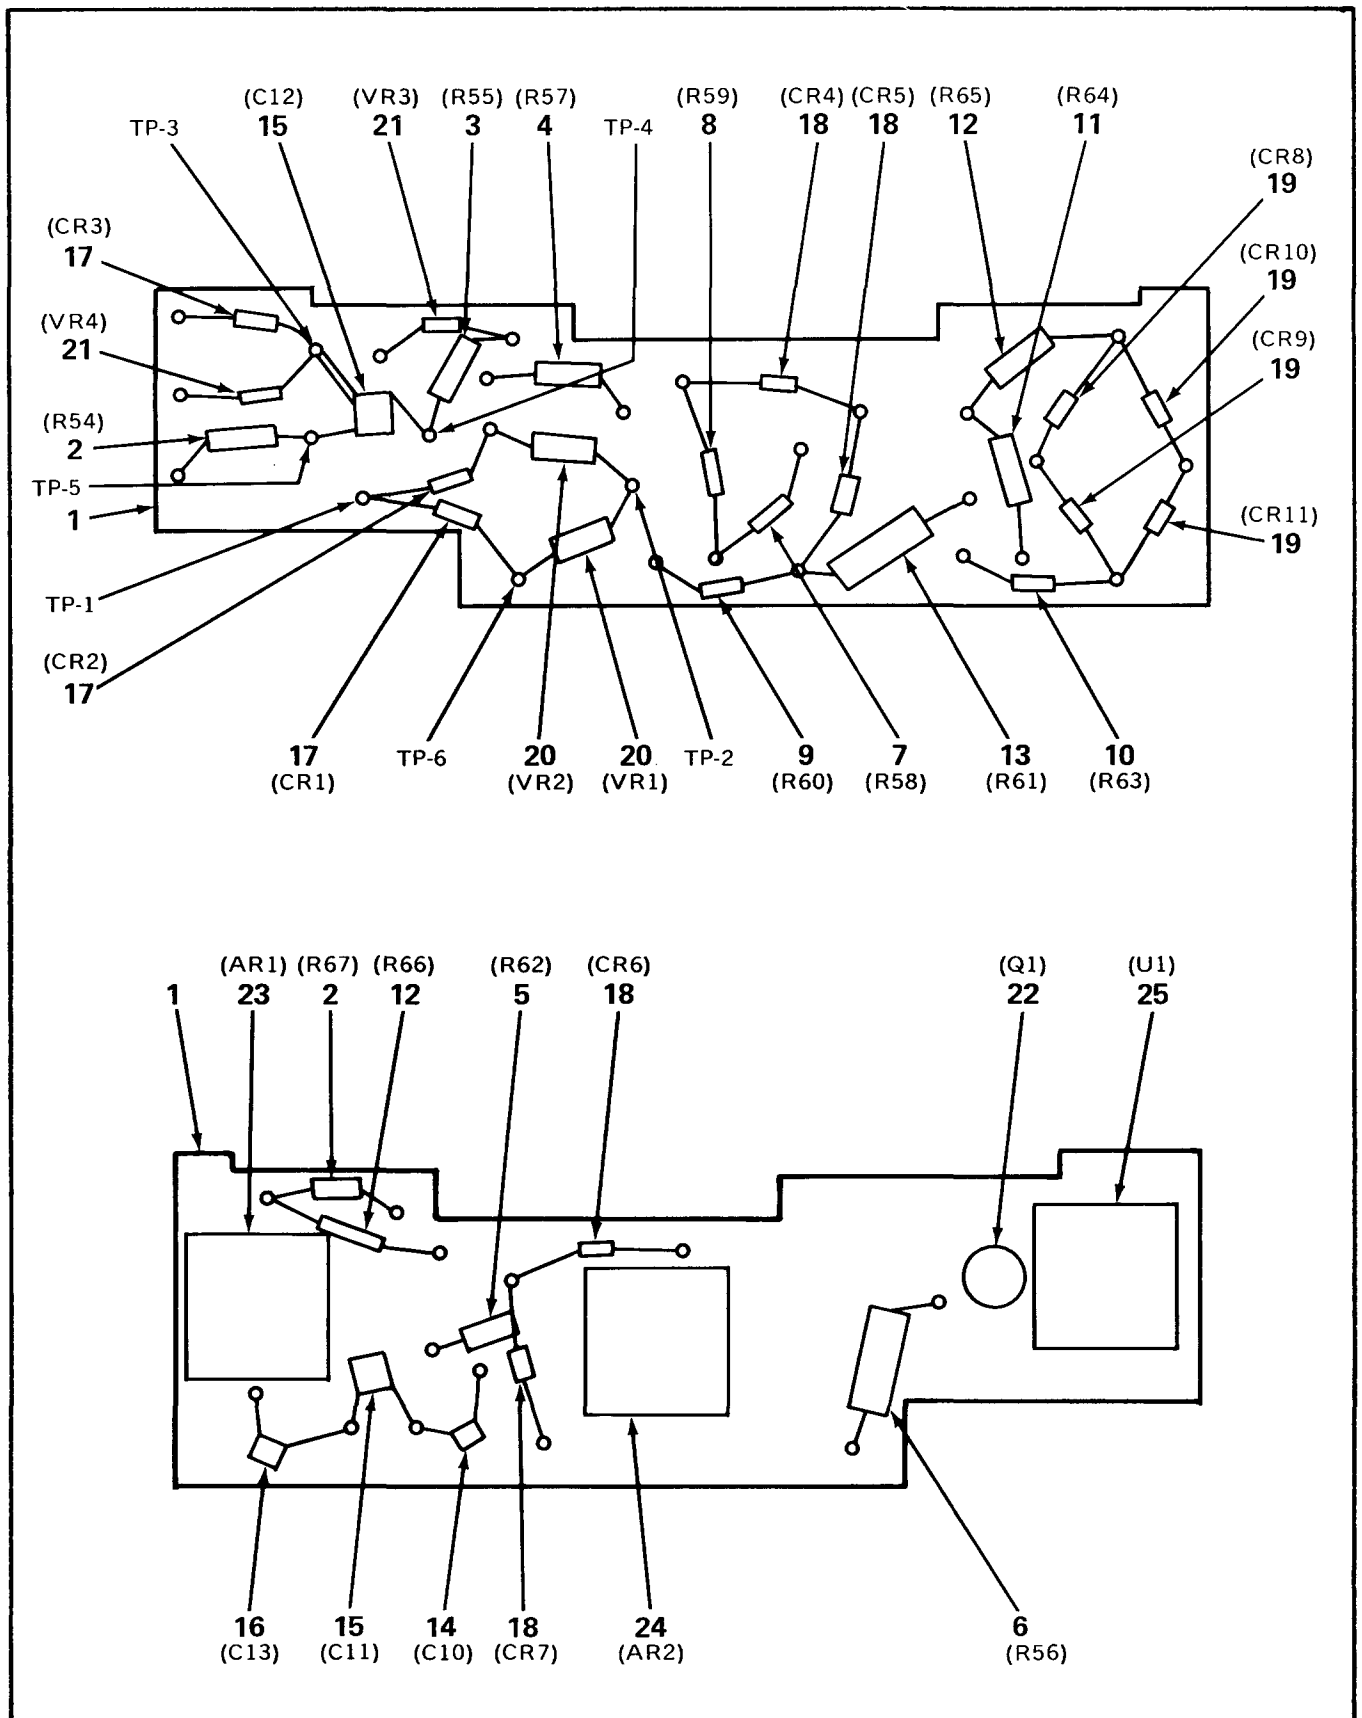

Figure 5-3. Amplifier Circuit Board Assembly
d. Remove digital voltmeter from DCPS and connect to PSM-37 amplifier circuit board assembly as follows: (Reference figures 5-3 and 5-4.)
If overload energizes but fails to activate, reset button. The problem could be mechanical. Resistor R-56 is also a prime cause and is checked between TP-6 and TP-4. It shall measure 33 +5% ohms. (Reference figures 5-3 and 5-4.)